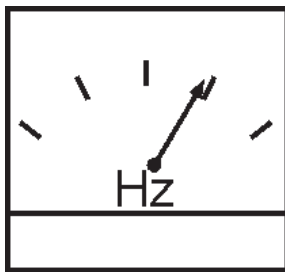

Figure 44. Frequency Meter (Hz)
- The generator's frequency meter (Figure 44) displays the 60 cycle output frequency in **HERTZ**.